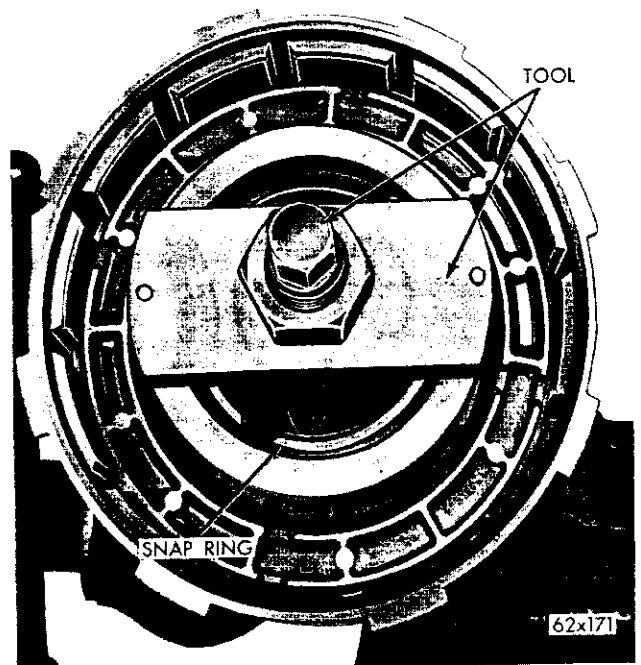
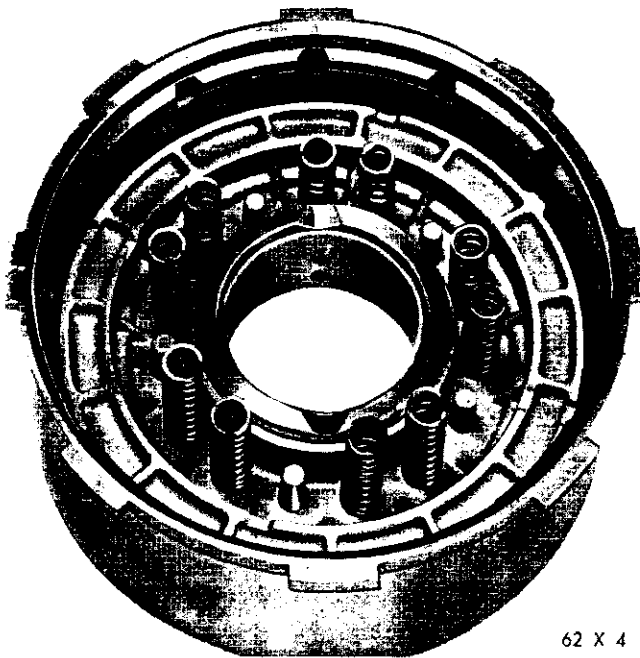

Fig. 65—Removing or Installing Front Clutch Spring Retainer Snap Ring
Fig. 66—Front Clutch Piston Return Springs—
- (1) Using a screw driver, remove the large snap ring that secures the pressure plate in clutch piston retainer. Lift the pressure plate and clutch plates out of the retainer.
- (2) Install compressor, Tool C-3863 over piston spring retainer as shown in Figure 65. Compress spring and remove snap ring, then slowly release tool until spring retainer is free of the hub. Remove the tool, retainer and spring.
- (3) Invert the clutch retainer assembly and bump on a wood block to remove the piston. Remove seals from the piston and clutch retainer hub.
as shown in Figure 66. Position the spring retainer and snap ring on the springs. Compress springs with Tool C-3863 (Fig. 65), and seat snap ring in the hub groove. Remove compressor tool.